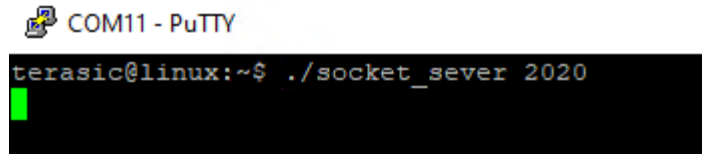

Figure 3-12 Start Socket Server
9. Type "**./socket_server 2020**" to launch the server program with port number 2020 as shown in Figure 3-12. The port number can be any value between 2000 and 63500.